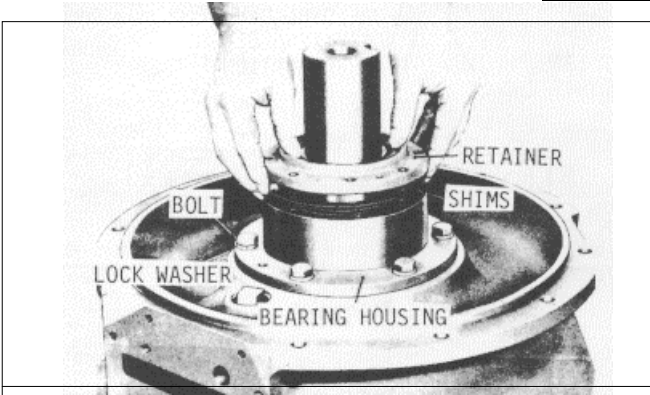

Fig. 36
- (1) Install the bearing retainer on the out-put shaft and seat it against the rear bearing by tapping it lightly with a soft hammer (Fig. 36).
- (2) Using a feeler gage inserted between bearing retainer housing, measure the space between those two parts.
- (3) Add 0.006 inch (0.1524 mm) to the measurement obtained in (2) above. This is the calculated shim thickness. Make up a shim pack and install it between the retainer and housing (Fig. 36).
- (4) Secure the retainer with eight 3/8-16 by 1-1/4 inch bolts and lock washers. Tighten bolts to 26-32 ft/lb. (35-43 N-m) torque.